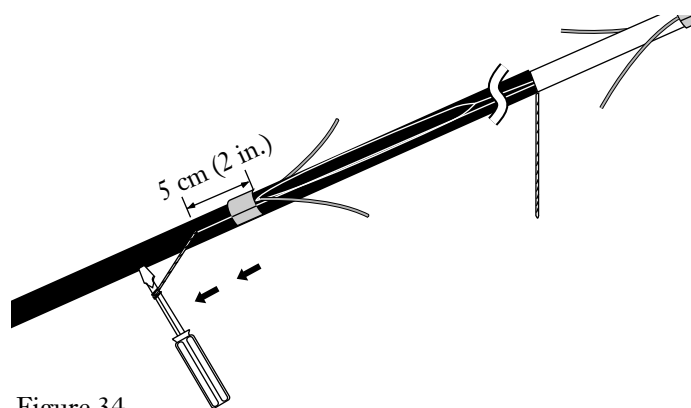

Figure 34
7.19 Using the shaft of a screwdriver as a handle, pull one rip cord at a time through the sheath and armor 5 cm (2 in.) past the opposite wrap of tape on the outer sheath (Figure 34). (The extra 5 cm (2 in.) of split sheath will permit the ground clamp to fit easily under the armor in a later step).